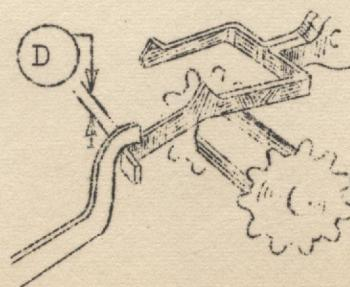

FIG. 14
Excess clearance at (D) may also cause this trouble. See Figure 14.